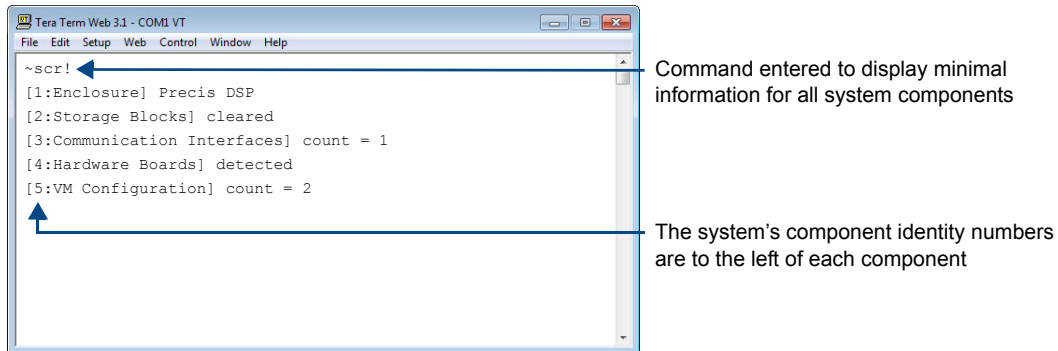

FIG. 9 Example of a Precis DSP splash screen
The splash screen can be accessed using a terminal emulation program; such as TeraTerm, PuTTY, or HyperTerminal (see page 29). One of four verbosity** settings is specified, which provides either a list of the five system components with minimal information (FIG. 9) or a level of detailed information on one of the five components. Only one verbosity setting and one component setting can be entered in a command. The order in which the verbosity and component settings are entered is interchangeable.
- If both settings are omitted during a query (`~scr!`), the information displayed will be at the lowest verbosity level for all components (`v0i0`) (FIG. 9 on page 31).
Note: *Either of these commands provides a “menu” of the identity numbers and their corresponding components (FIG. 9 on page 31).*